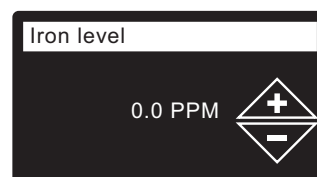

FIG. 28
15. **IRON LEVEL** Press the UP (▲) or DOWN (▼) buttons to set the value for iron in your water (See Figure 28).